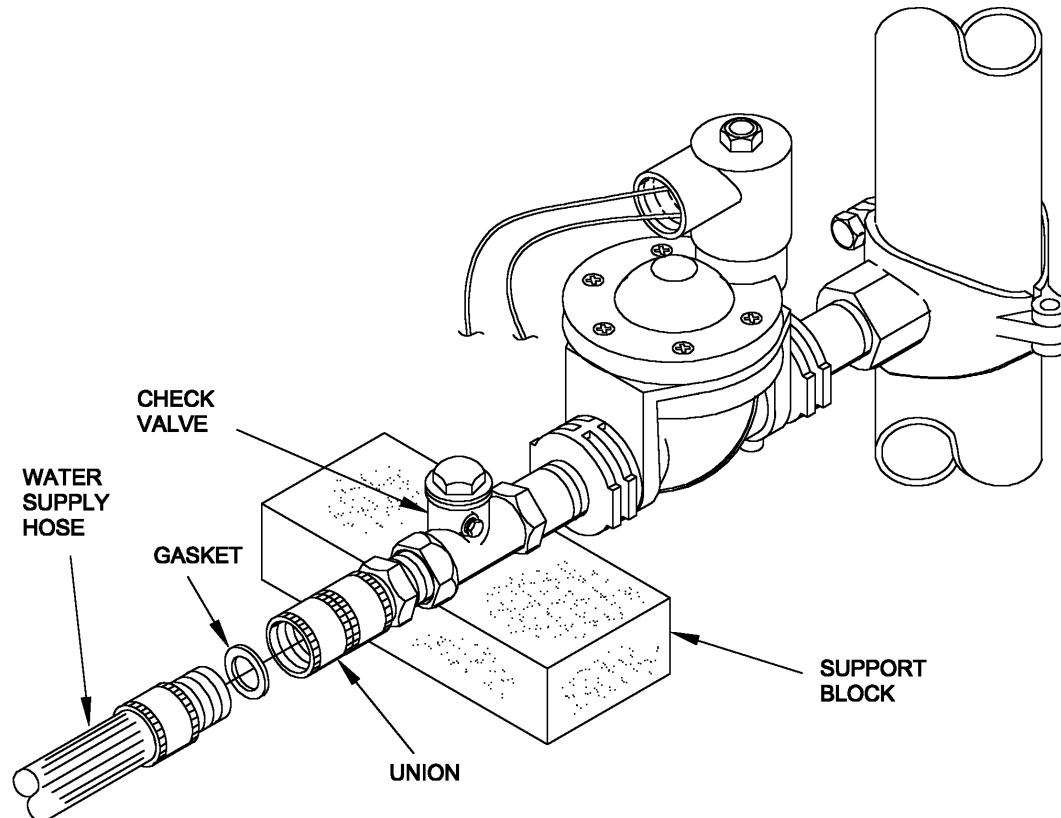

Figure 2-10. Connecting Water Supply and Supporting Solenoid Valve Assembly
10. Refer to figure 2-10. Make certain there is a gasket within the union.
12. If the solenoid valve assembly is positioned close to the ground in a location where it may be stepped on, place a support block under the check valve as shown in figure 2-10.